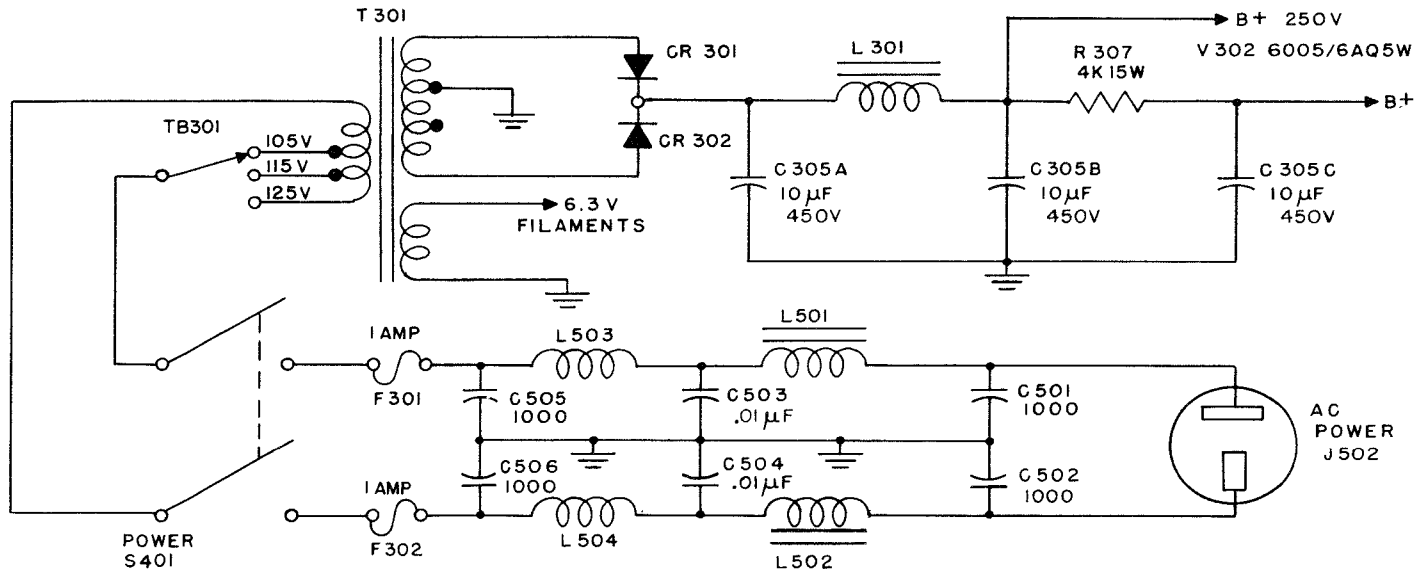

Figure 2-13. Simplified Schematic, Power Supply
(2) POWER SUPPLY.—As outlined in the simplified schematic, figure 2-13, the power supply consists of a full-wave rectifying system, using selenium rectifiers and provides for multi-tap selection of the AC voltage source. A 2-pin receptacle (J502), located on the rear compartment, provides connection to the AC power source. Both sides of the AC line pass through an RF filter system, also located in this rear compartment. This filter system is composed of two sections, the first section consists of L501, L502, C503, and C504, which will attenuate signals in the range 2 to 40 Mc. The second filter section composed of C501, C502, L503, L504, C505, and C506, which will attenuate signals in